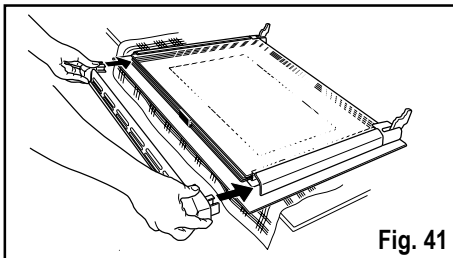

Fig. 41
11. Insert the inner glass support (Fig. 41).